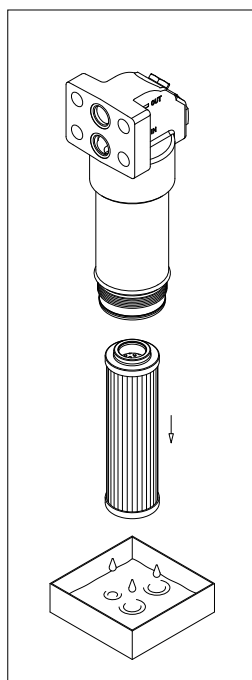

fig. 10
- (Fig. 10) Pull the filter element out.